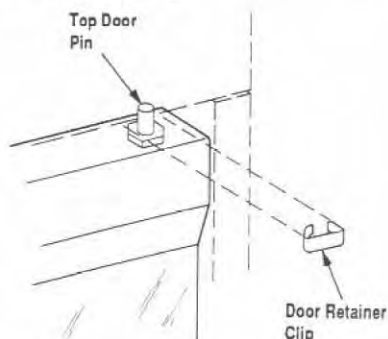

Figure 53
Step 7. If needed, snap retainers onto both right and left top door pins to prevent accidental disengagement (Figure 53).